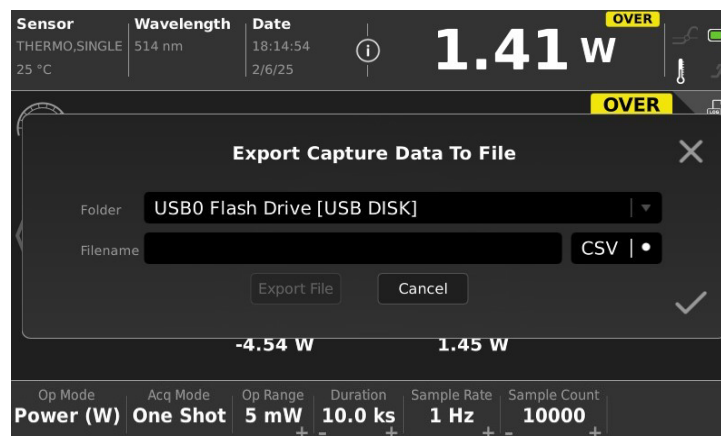

Figure 6-15. Save to File Settings
4. Select the necessary folder location on the USB drive, in the **Folder** field. Refer to the example in Figure 6-15.